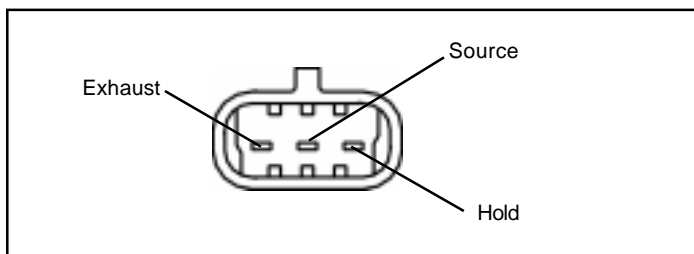

Figure 4: M-30 Modulator Connector
2. Proceed to the modulator in question and inspect its wiring connector. Disconnect the connector and test the resistance between the pins ON THE MODULATOR. Refer to figure 4.